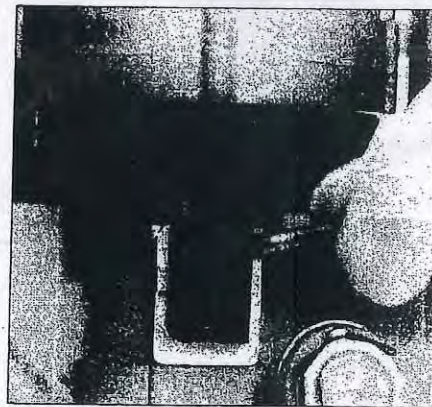

**Fig. 3**
**Index alignment tool, Fig. 3:**